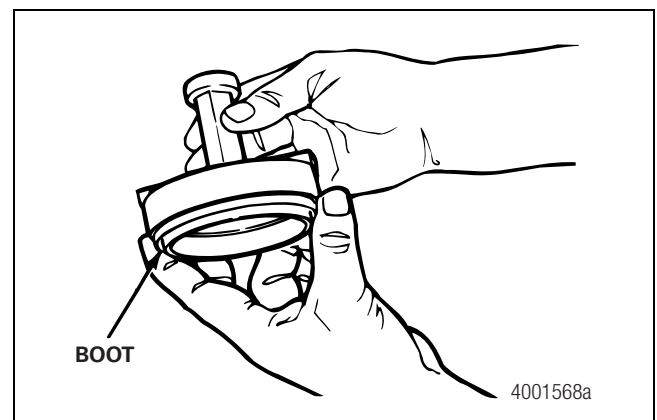

Figure 5.14
3. Position the boot straight into the adaptor. The boot seat must be away from the adaptor. Figure 5.14.